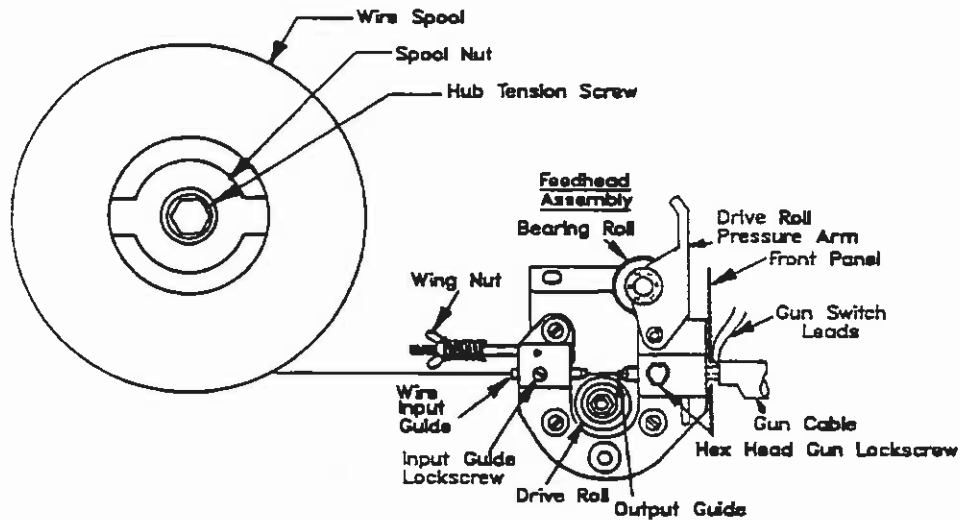

Figure 5, Feedhead Assembly
The drive motor is 20 volt DC. See Figure 5 for details on the feedhead assembly.
Refer to Figure 5
1. Place end of the wire into the input wire guide (See Figure 5).
Place the drive roll pressure arm in the "UP" position (as shown in Figure 5) when feeding the wire into the feedhead.